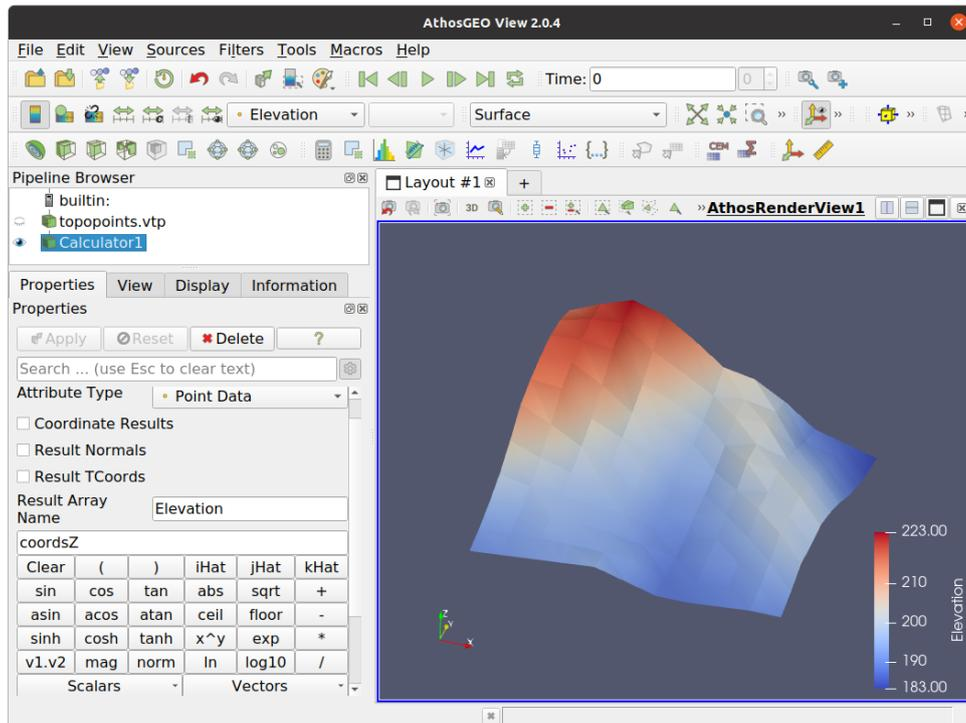

Fig. 2.31: Coloring a **triangulated topo surface** by a newly generated **Elevation** attribute.
- Now it is possible to color the surface by **Elevation**, as shown in Fig. 2.31.
As can be seen in Fig. 2.31, coloring appears nicely and smoothly interpolated. This is because the **Elevation** attribute is a **Point** attribute. See also Section 2.4.3 for more information about *point and cell attributes*.
- **Point attributes** are interpolated between the points, which results in **smooth color transitions** between the points, as shown in Fig. 2.31.